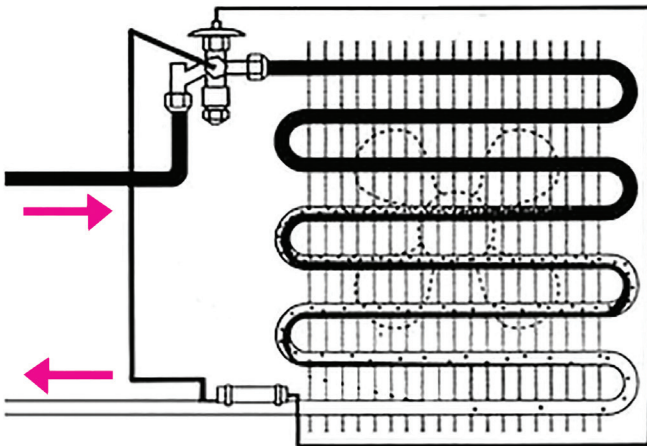
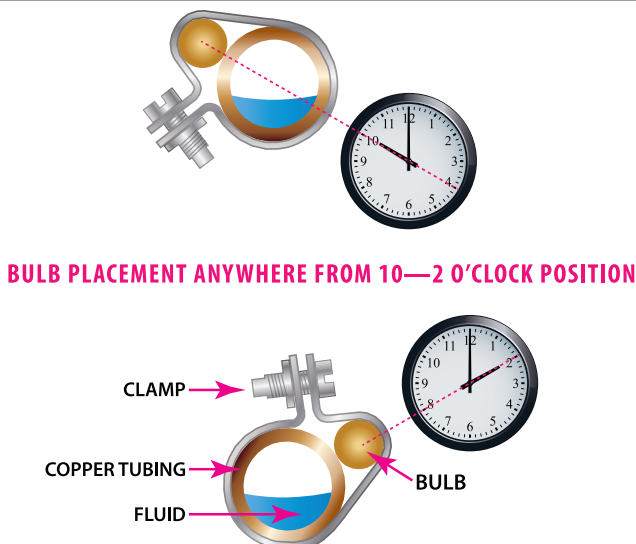

Figure 6: The TXV Sensing Bulb Location
Figure 7: TXV Bulb Placement
The sensing bulb must be securely attached to the suction line using the two furnished bulb clamps. The ideal location for the TXV sensing bulb is on a horizontal section of the suction line tube outside the coil case and positioned between 10 o'clock and 2 o'clock on the tube (See Figures 6 and 7).
10. The sensing bulb should be installed outside the coil case on a horizontal section of the suction line if possible (See Figure 6) and should be positioned between 10 o'clock and 2 o'clock as shown in Figure 7.